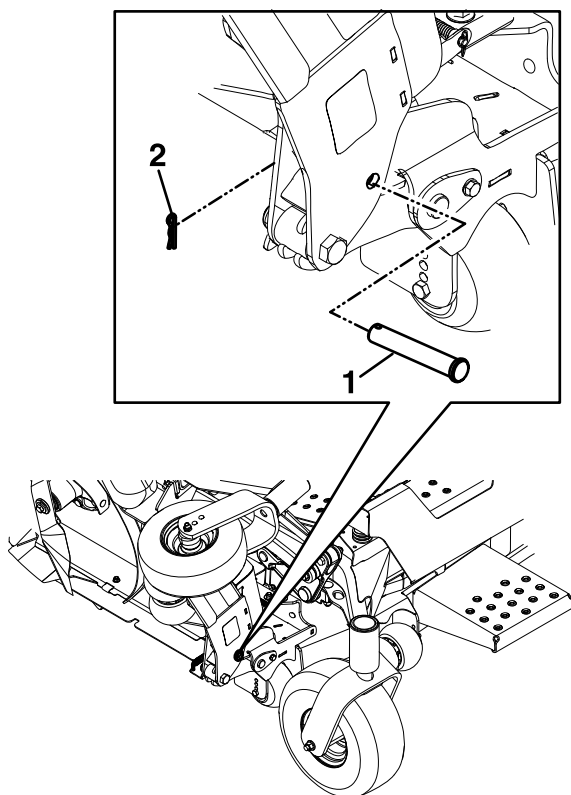

Figure 22
5. Remove the clevis pin and hairpin cotter from the storage location and secure each wing in the upright position (Figure 22).